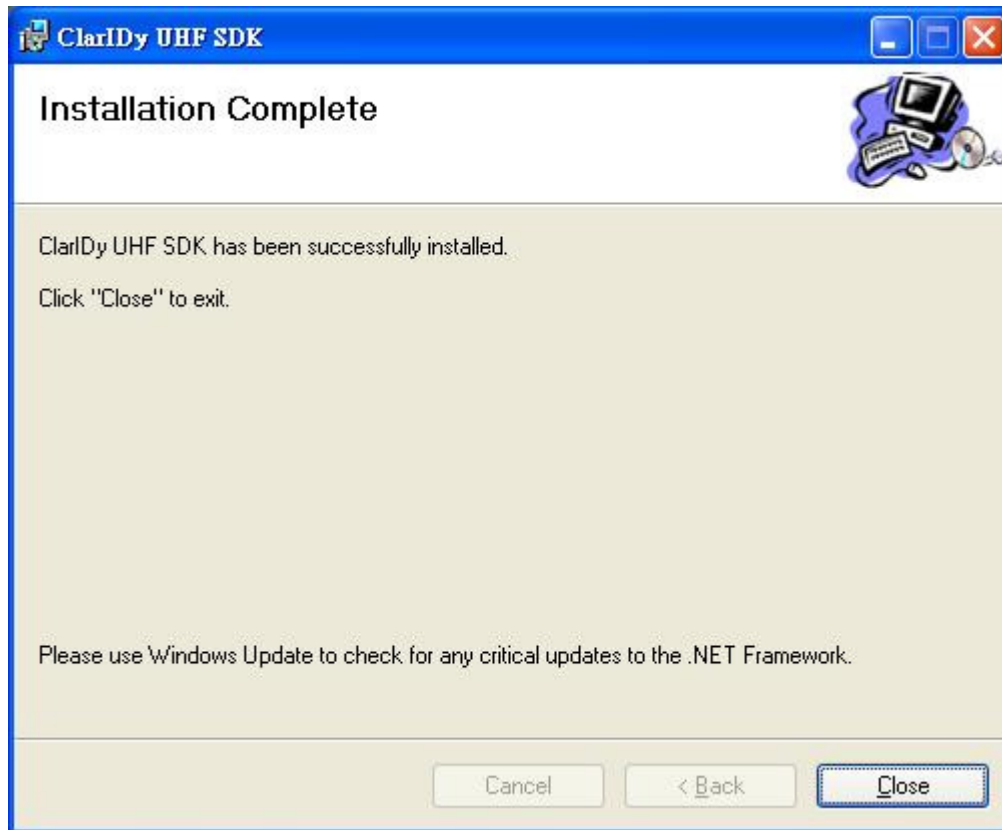

Figure 18
6. Click "Close" to exit, as figure 18.